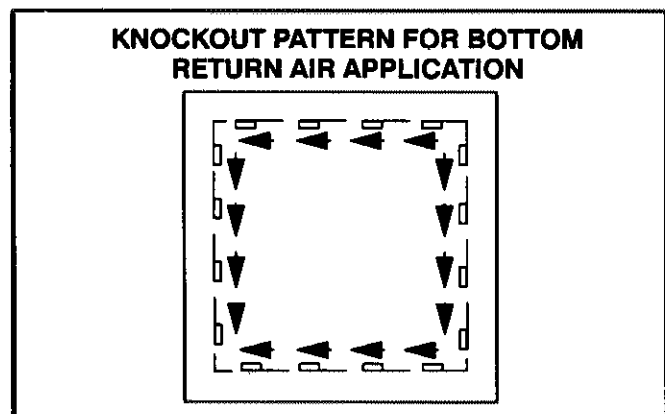

FIGURE 7
- 1- Cut opening in floor or platform. Using knockouts provided, cut bottom of base panel. See figure 7.